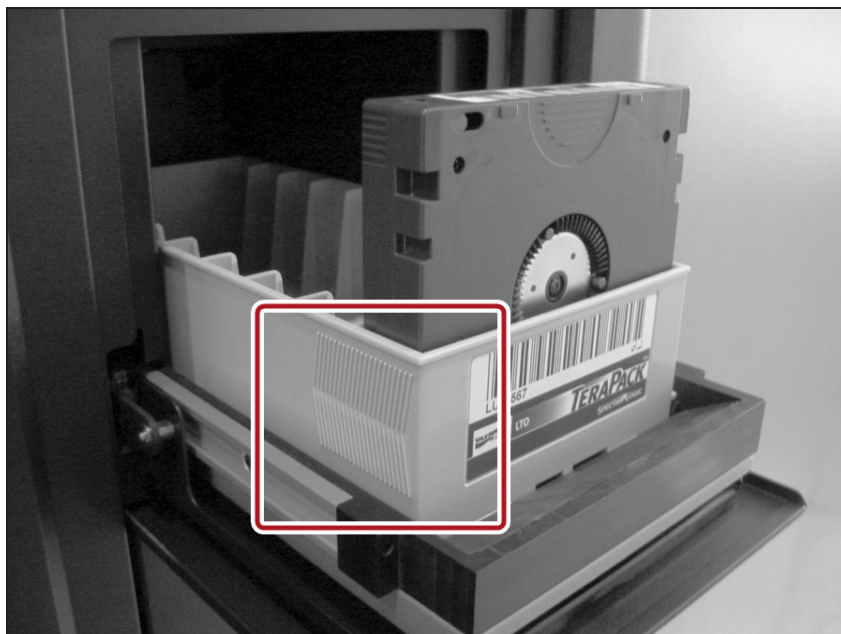

Figure 249 Insert a magazine into the TAP, making sure that it is correctly oriented.
- a. Insert a magazine into the tray on the open TAP, making sure that it is oriented with the textured surface on each side toward the outside of the library, as shown in Figure 249 on page 334.
- a. Insert a magazine into the tray on the open TAP, making sure that it is oriented with the textured surface on each side toward the outside of the library, as shown in Figure 249.